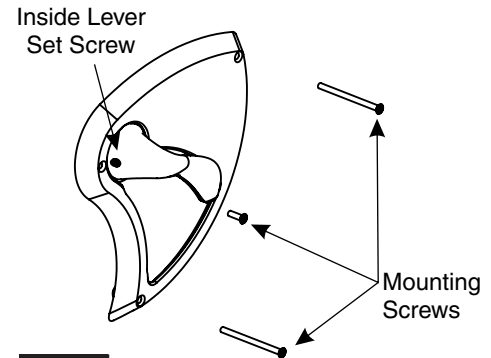

Figure 24
- Tighten inside lever set screw. (Figure 24)
- Install three escutcheon mounting screws through inside escutcheon. (Figure 24)